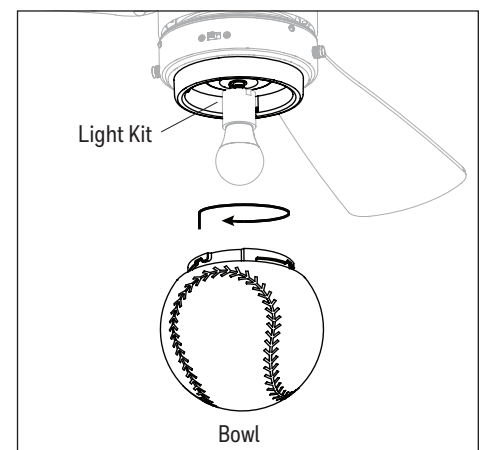

Figure 5.9
9. Attach the bowl to the light kit by twisting the bowl firmly in a clockwise direction until it is secure. **CAUTION:** Avoid cross-threading the bowl during installation. Improper installation could cause the bowl to be difficult to remove or fall, which could cause serious injury (Figure 5.9).